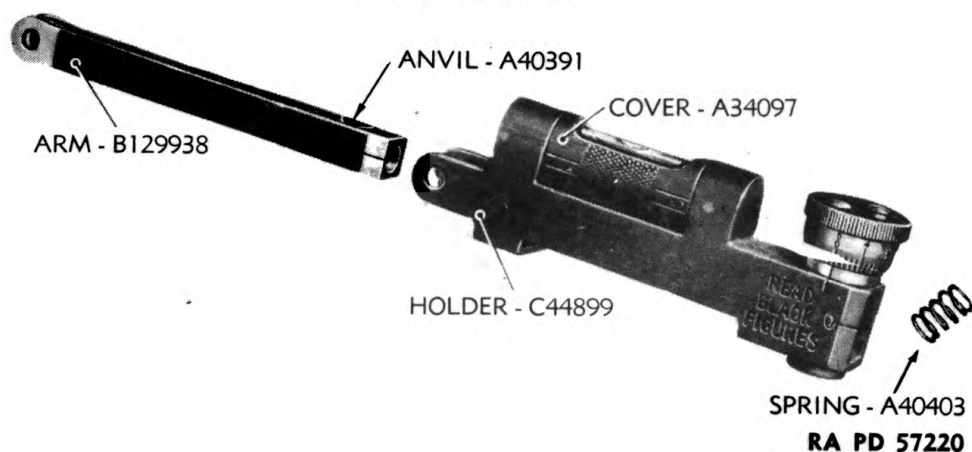

Figure 8—Gunner's Quadrant M1—Arm and Compression Spring Removed
(3) **REMOVE ARM FROM LEVEL HOLDER** (fig. 8).
(6) Push level tube assembly, slotted end first, into level holder and through level vial cover. Aline slot in level tube with pin BFDX1AA in level holder and continue to push level tube in until it is seated.
(7) Insert the four headless cone point adjusting screws. **NOTE:** These screws are used in making the final adjustments of the level vial, and should not be tightened at this time. Plug at the end of the level holder is to be installed after the final level vial adjustment has been made.
e. Install Arm in Level Holder (fig. 8).
(1) Insert compression spring in position below micrometer.
(2) Push arm with arm anvil facing up, through level holder at the pivot end, and continue pushing arm until pivot holes in arm line up with pivot holes in level holder.